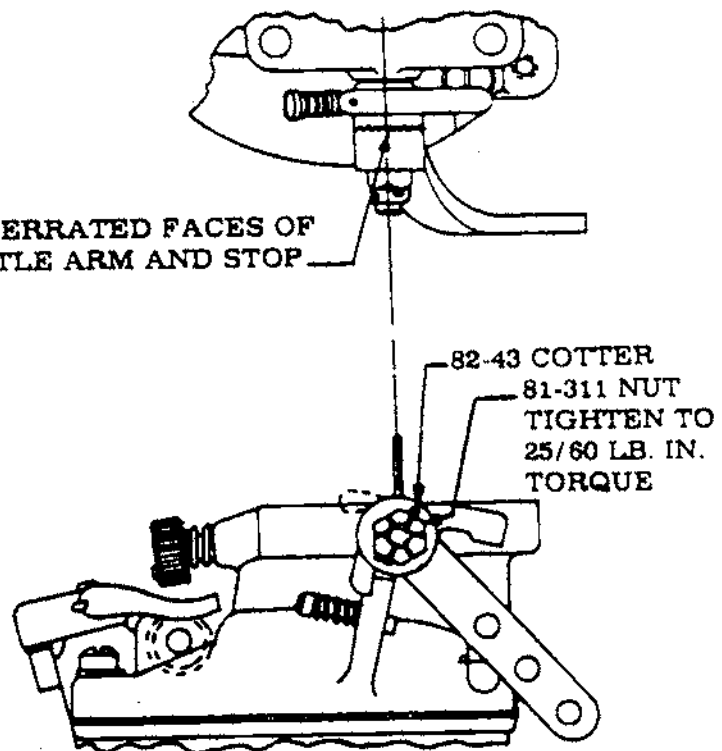

Figure 11-4. Throttle Control
- 11-61. **THROTTLE CONTROL.** (See figure 11-4.)